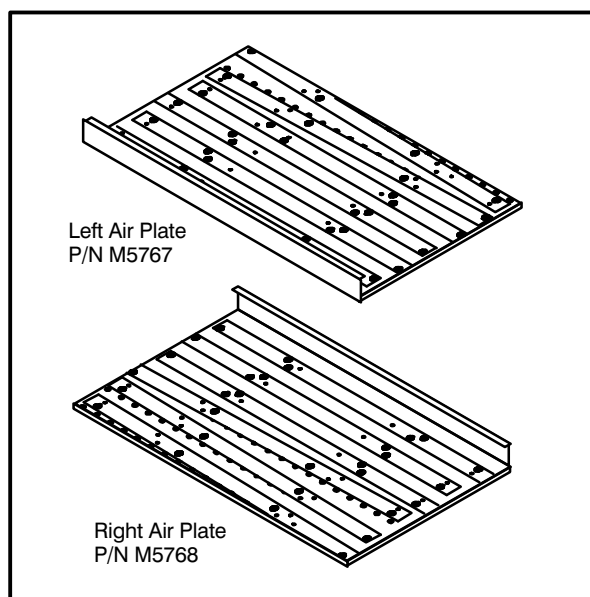

FIGURE 6
**NOTE:** Change the air plates whenever the conveyor belt direction of travel is changed. See FIGURE 6.
Verify that the proper air plates were received. Inspect the orientation of the air plates. Refer to FIGURE 6.